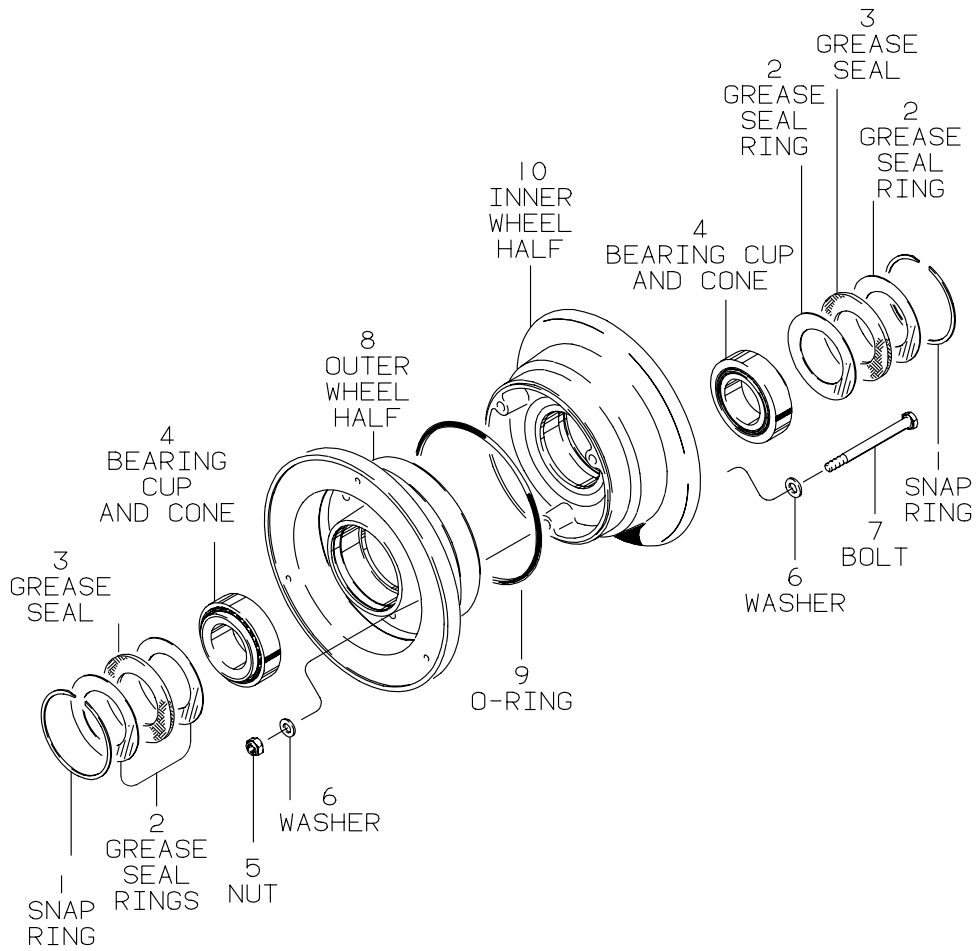

Figure 3 - Typical Nose/Tail Wheel Assembly
Wheels are made from either aluminum castings, magnesium castings, or aluminum forgings. The wheel is of the divided type, incorporating inner wheel half (10) and outer wheel half (8), Ref. Figure 3, which are fastened together with tie bolts (7), washers (6), and nuts (5). An o-ring (9) fitted between the two wheel halves provides the air seal for wheels designed to operate with tubeless tires. The wheel rotates on two tapered roller bearings (4) which seat in bearing cups, shrink fitted into the hubs. Grease seals (3) provide protection and lubricant retention for the bearings. All new product shipped will have the bearings packed with the appropriate grease (refer to Section 300 Off-Aircraft Maintenance, paragraph 3.A. Bearing Grease). Felt grease seals are shipped dry. Remove the felt seals and lightly coat all surfaces of the felt with the wheel bearing grease and reinstall prior to wheel use. Hubcaps, when used, are secured to the outboard wheel half by a snap ring (1) or three attachment screws. Full wheel covers are fastened by three attachment screws.